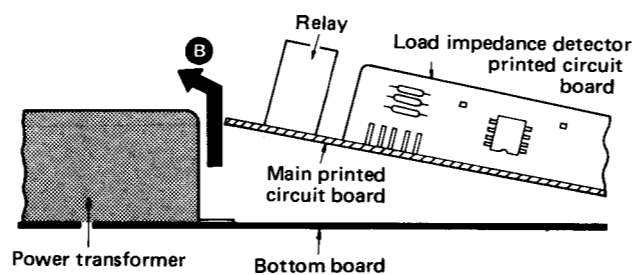

Fig. 14
8. Lift the main printed circuit board on the power transformer side in the direction of the arrow B (Fig. 14) to remove it.